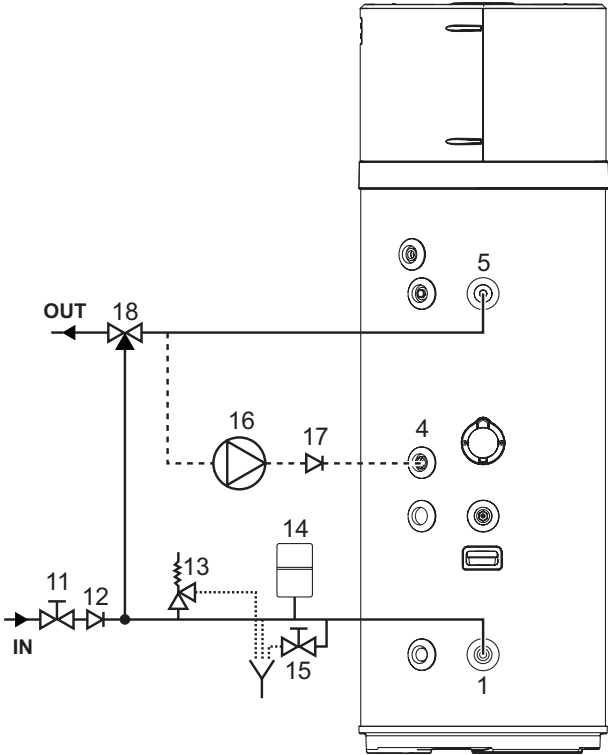

fig. 17- Example of water system
The following figure (fig. 17) illustrates an example of plumbing connection.
Legend (fig. 17)
-  **ATTENTION!:** The heat pump for DHW production can heat the water to over 60°C. Therefore, to protect from burns, an automatic thermostatic mixing device must be installed on the hot water piping (fig. 17).